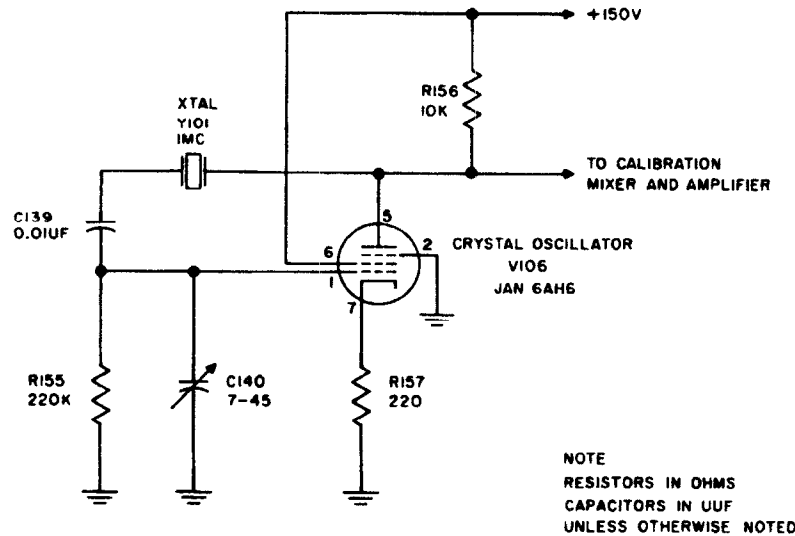

Figure 2-10. Crystal Oscillator Simplified Schematic
**8. CRYSTAL OSCILLATOR.** (See figure 2-10.)